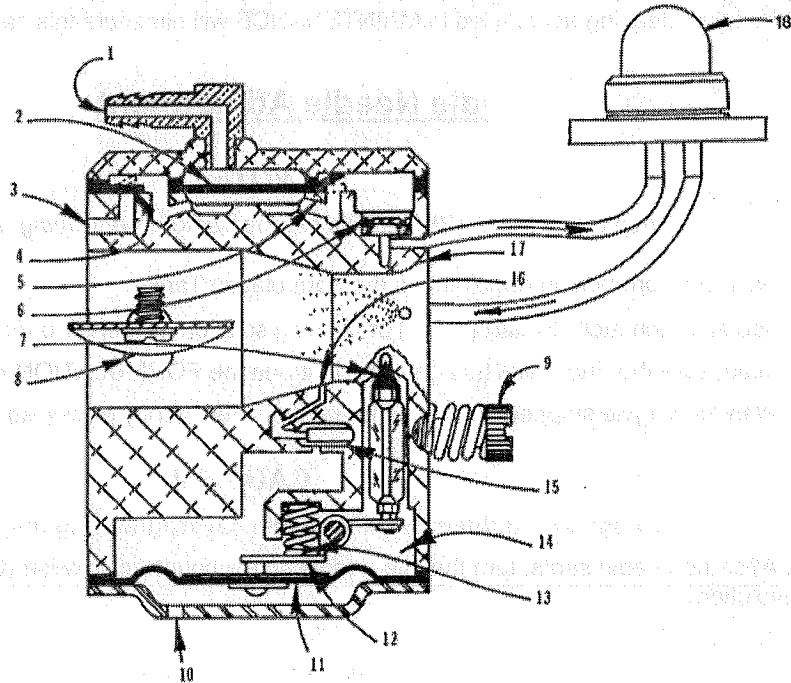

FIGURE 7
2. ON/OFF linkage not fully rotating butterfly plate in carburetor (Fig. 7, Item 8).